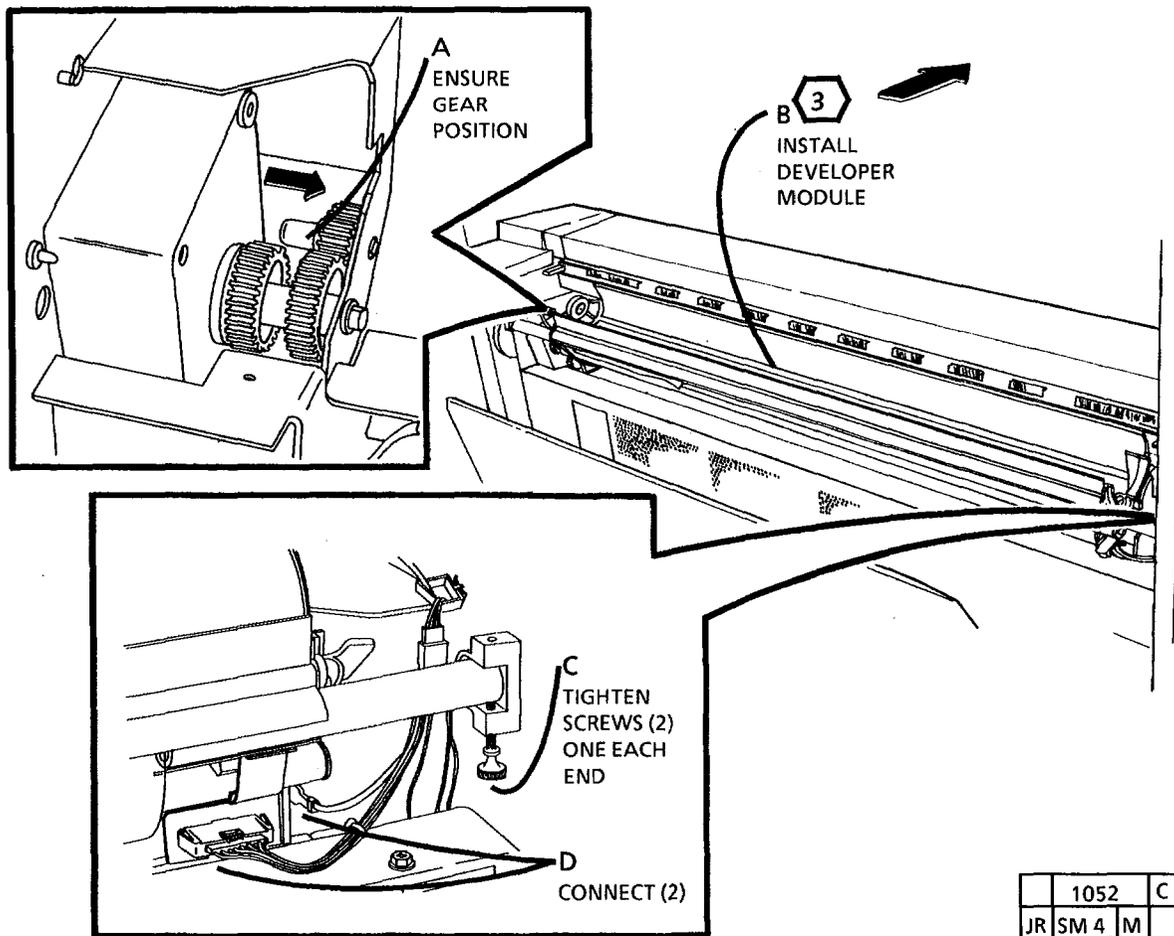

Figure 4. Install the Developer Module
2. (FIGURE 4): INSTALL THE DEVELOPER MODULE.